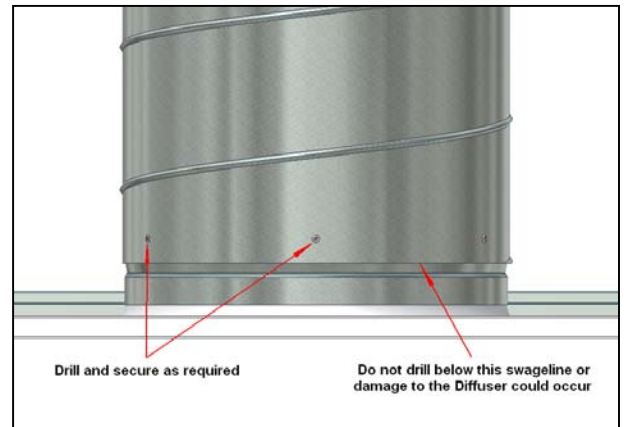

Figure 14: Secure Ductwork in place
- b. Secure the ductwork by drilling through it and the Duct Collar above the swage line, then riveting or screwing them in place (figure 14). Do not under any circumstances fix the ductwork below the swage line as damage to the Diffuser may occur.